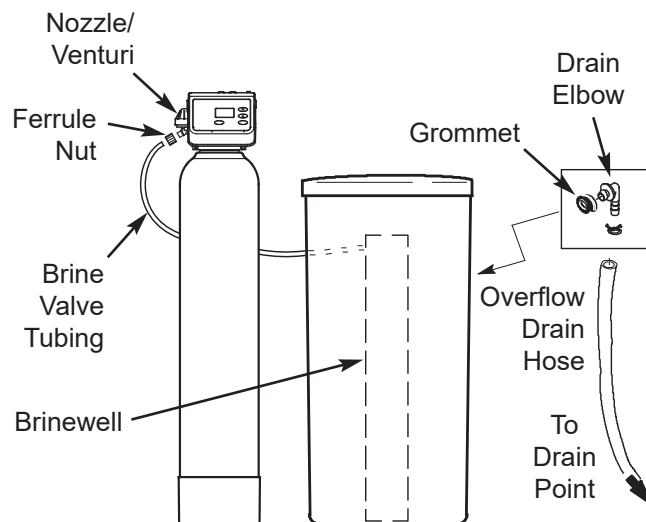

FIG. 10
- Connect the brine tube to the nozzle/venturi assembly using the ferrule nut provided (See Figure 10).